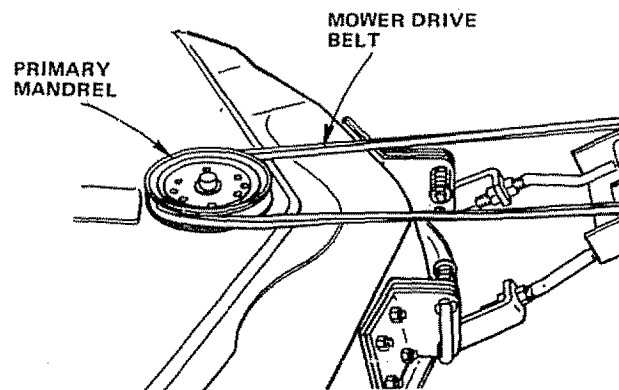

FIGURE 13
7. Roll Drive Belt over Primary Mandrel (Fig. 13).